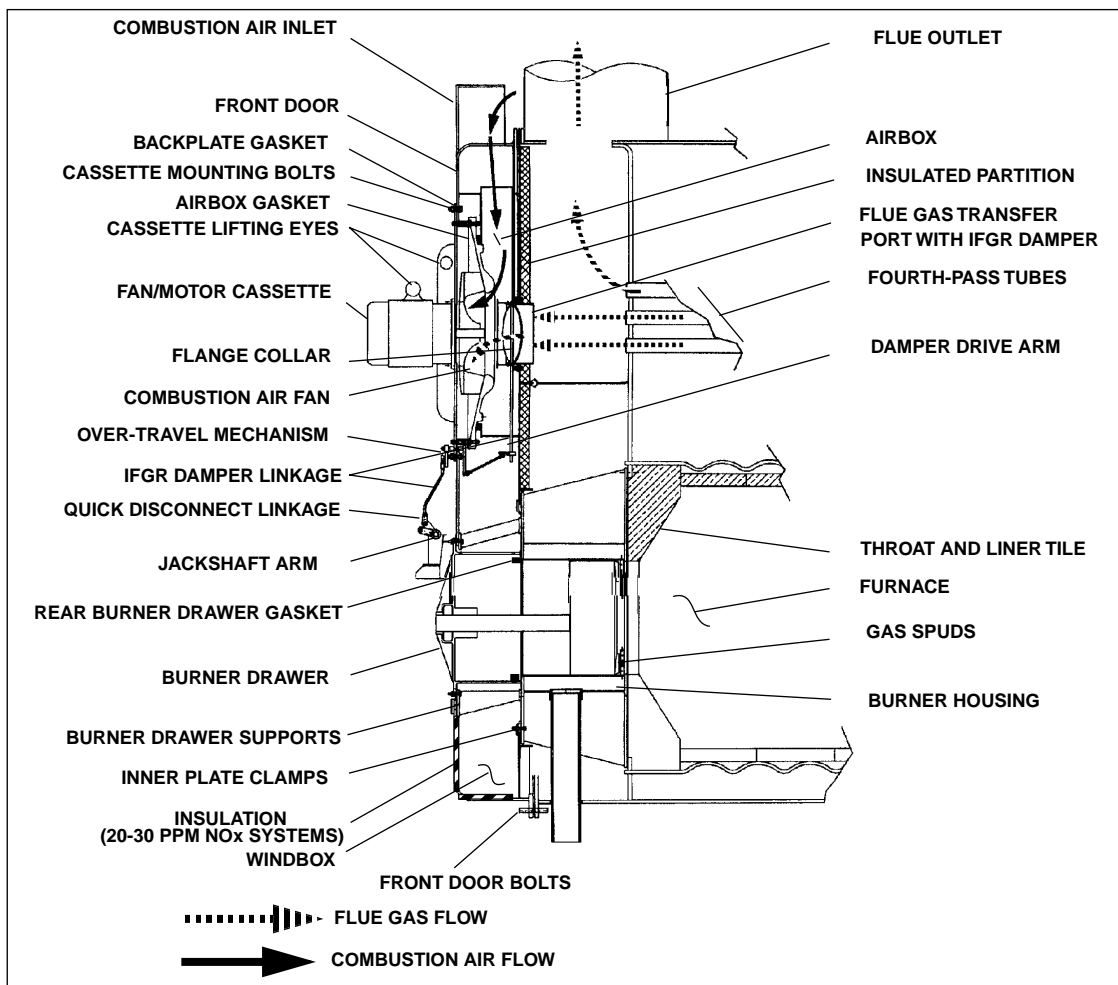

Figure: 1-15 Induced Flue Gas Recirculation System, General Arrangement
1. Flue Gas Transfer Port, IFGR Damper, and Flange Collar (Figure 1-15). The flue gas transfer port is a tube that allows the flue gases to travel from the exit of the fourth-pass tubes to the entrance of the combustion air fan.
3. Over-Travel Mechanism (Figures 1-15 and 1-16). The over-travel mechanism has two functions. It allows the linkage to pass through the front door, and it allows jackshaft rotation to exceed (over travel) IFGR linkage
- 6. Burner Drawer (Figure 1-15). The gas spudding pattern for the IFGR system may be different than that of a non-IFGR CB Burner of the same horsepower (HP) model designation.
- 7. Combustion Air Inlet (Figure 1-15). The combustion air inlets are located at the top of the front door. Air enters from the rear of the air inlet shrouds, which reduces the sound level and captures heat from the boiler and stack flue outlet.
- 8. Front Door Insulation (Figure 1-15). If NO_x emissions are below 60 PPM, the front door is insulated inside to control temperature build up. The insulation is held in place with wire mesh.